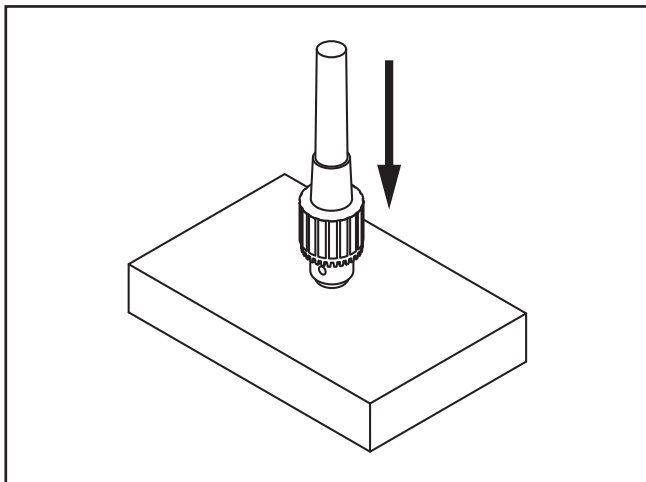

Figure 7. Installing arbor into chuck.
4. Hold assembly by the arbor and tap chuck onto a block of wood with moderate force (see **Figure 7**).